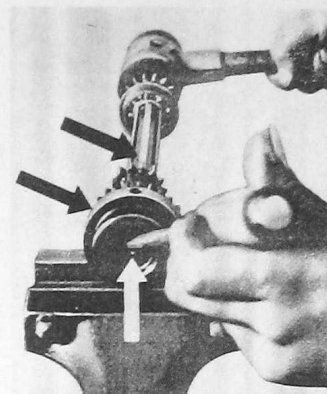

Fig. 62
1. The input shaft (Fig. 62, center).
2. The output shaft and slider ball (Fig. 62, bottom).
5. The input shaft bearing shaft the lock (Fig. 62, top).